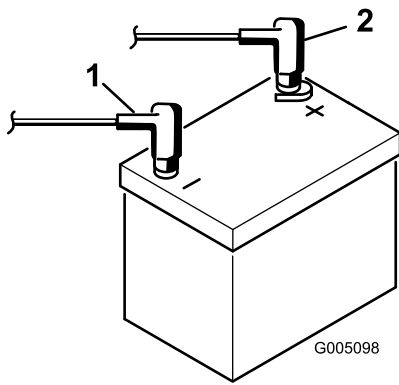

Figure 8
9. Install the positive cable (red) to the positive (+) terminal and then the negative cable (black) to the negative (–) terminal of the battery and secure them with the bolts and nuts (Figure 8). Slide the rubber boot over the positive terminal to prevent a possible short from occurring.